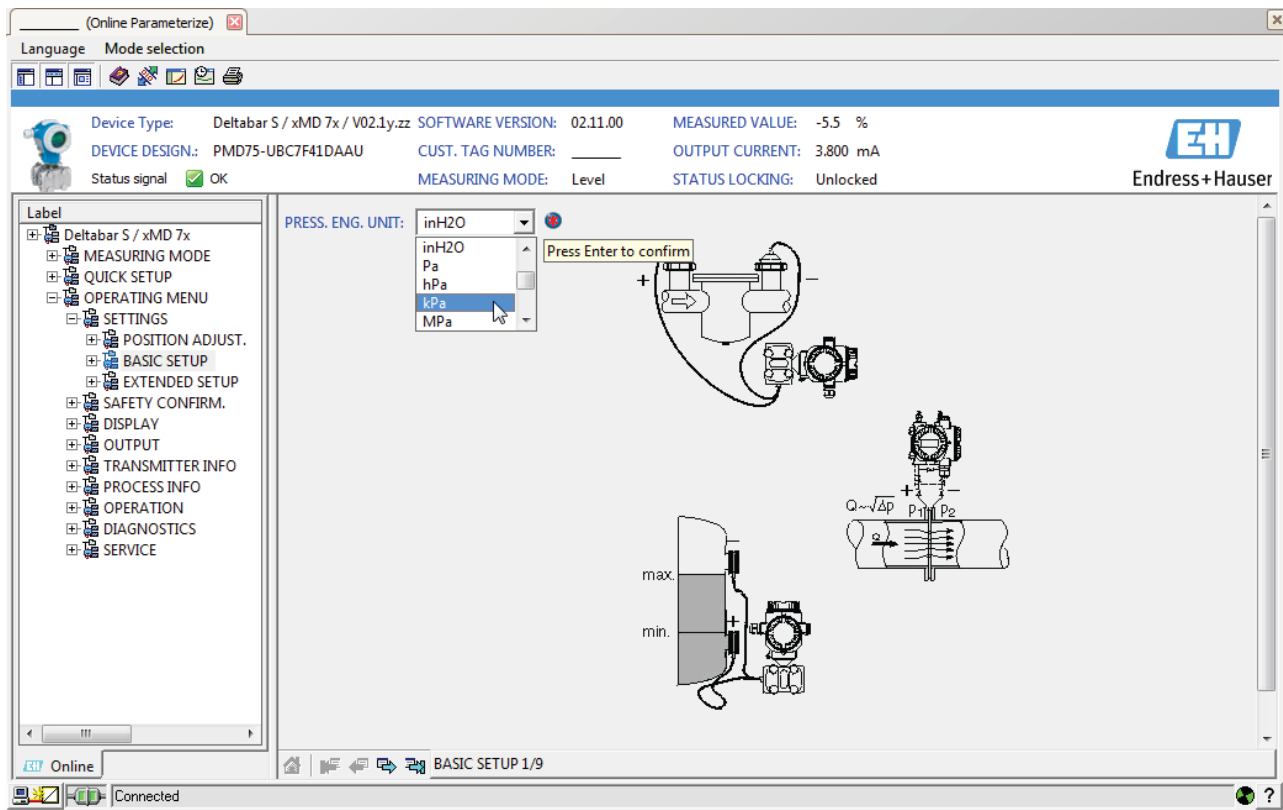

Figure 2-12. Pressure Unit.
10. Next, go to **OPERATING MENU** ► **SETTINGS** ► **BASIC SETUP** and modify the unit from inH2O to kPa. In the **PRESS. ENG. UNIT** drop-down menu, select **kPa** (Figure 2-12). Then, press **Enter** to confirm the command.